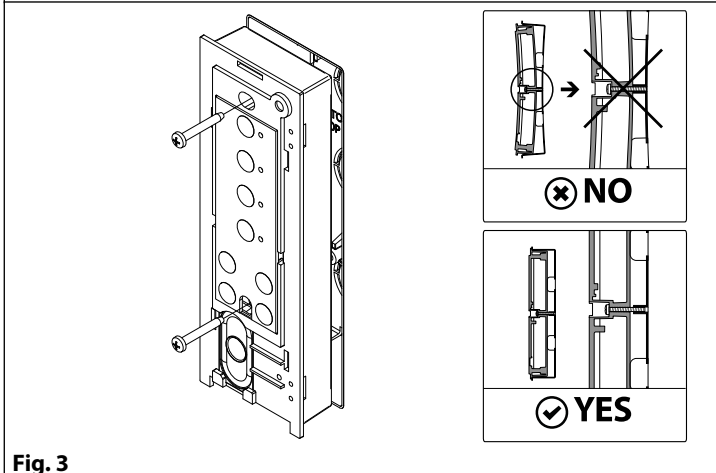

Fig. 3
3. As shown in **Fig. 3**, once the wires are connected, fix the intercom to the flush mounting box using a Phillips screwdriver and the two screws provided.
**In order to avoid malfunctions, please do not over tighten the fixing screws shown in Fig. 3.**